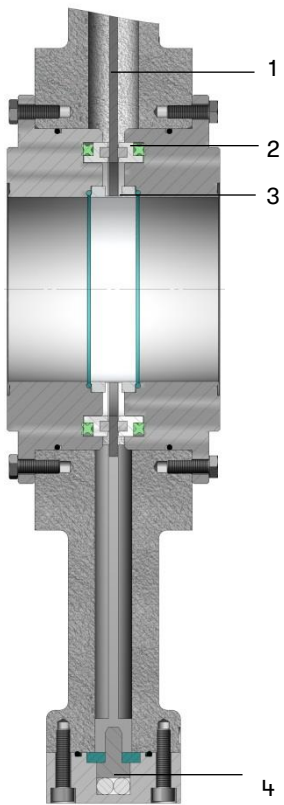

Fig. 7
- Valve gate (Fig. 7, Pos. 1), Seal ring with seal (2), inliner (3) and damping elements (4) have to be checked for possible damage.